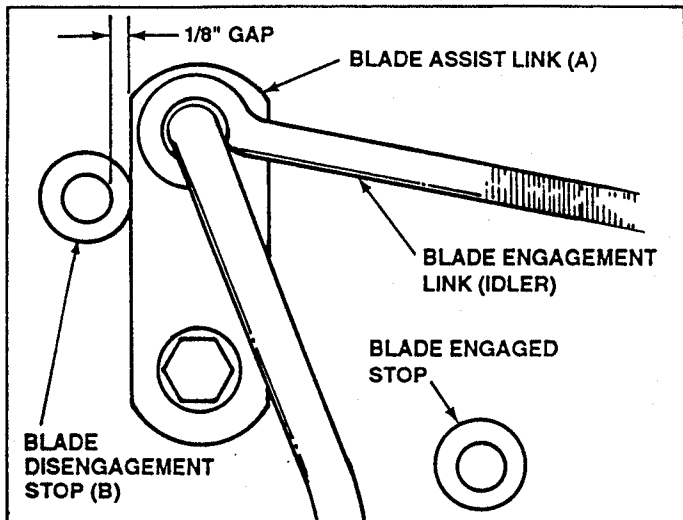
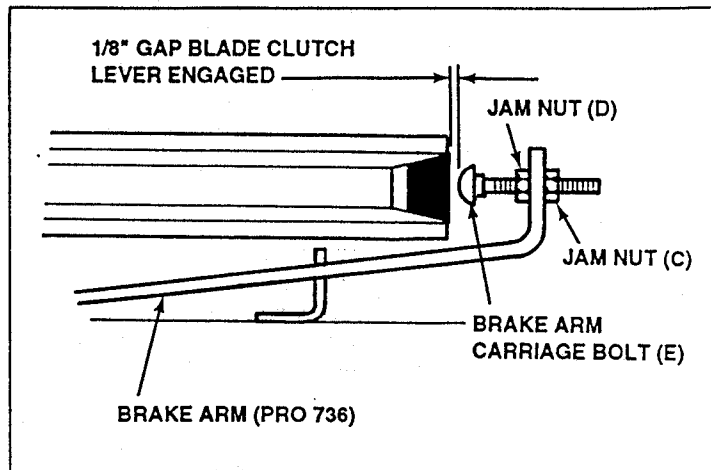
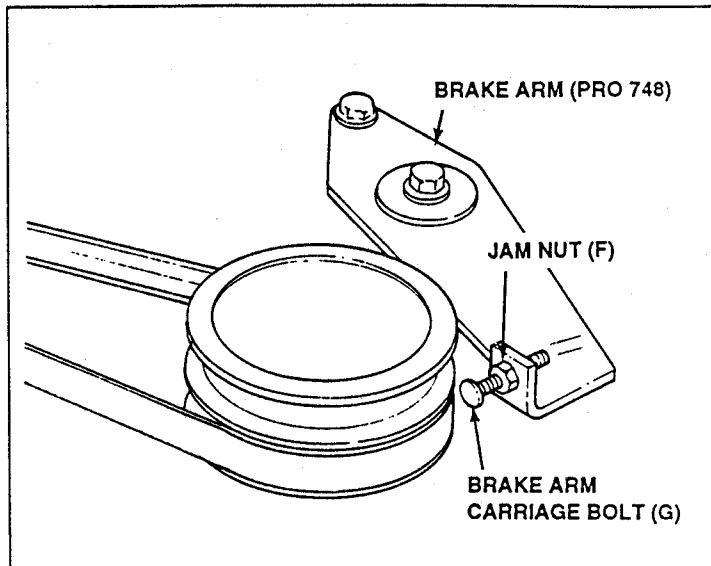

FIGURE 31
FIGURE 32
FIGURE 33
5. Check Blade Brake Adjustment (PRO 736) by pulling Blade Clutch Lever rearward to the OFF position. See Figure 7.. Check to see if there is a 1/8" gap between Blade Assist Link (A) and Blade Disengagement Stop (B). See Figure 31. If the gap is greater or less than 1/8", then adjust Brake Arm Carriage Bolt (E) as follows: Loosen Jam-nut (C) and loosen/tighten Brake Arm Carriage Bolt (E) (See Figure 32.) until a 1/8" gap is achieved between the Blade Assist Link and Blade Disengagement Stop (See Figure 31.) Tighten Jam-nuts (C and D).
Check Blade Brake Adjustment (PRO 748) by pulling Blade Clutch Lever rearward to the OFF position. See Figure 7.. Check to see if there is a 1/8" gap between Blade Assist Link (A) and Blade Disengagement Stop (B). See Figure 31. If the gap is greater or less than 1/8", then adjust Brake Arm Carriage Bolt (G) as follows: Loosen Jam-nut (F) and loosen/tighten Brake Arm Carriage Bolt (G) (See Figure 33.) until a 1/8" gap is achieved between the Blade Assist Link and Blade Disengagement Stop (See Figure 31.) Tighten Jam-nut (F).